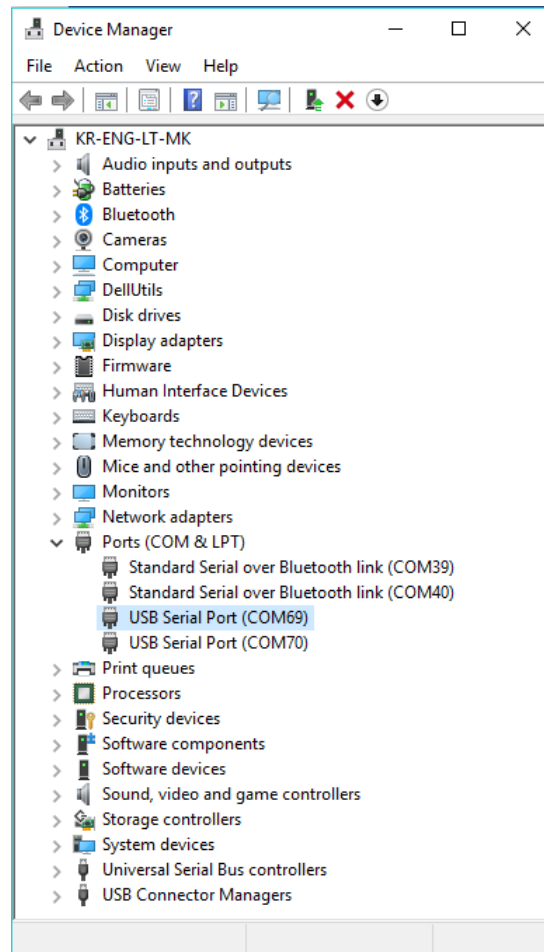

Figure 32. Check COM ports on device manager
There are two virtual COM ports created by the Windows driver. The first COM port (lower number, COM69 in Figure 32) provides a UART interface for debugging or firmware download between the PC and the DA161200. The second (higher number, COM70 in Figure 32) is used for AT command.
2. Make sure that the PC discovered the two serial ports in Windows Device Manager as shown in Figure 32. The higher COM port number is connected to UART1.